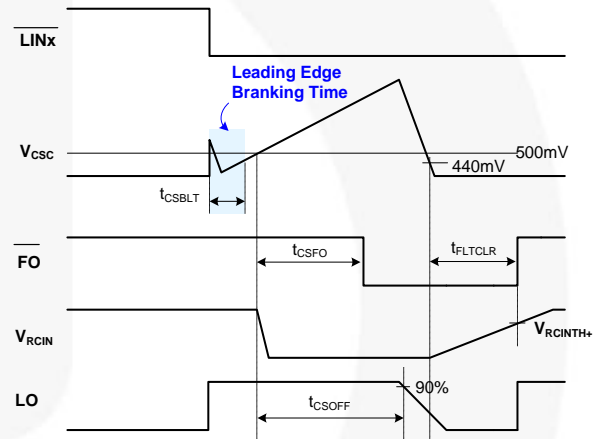

Figure 43. RCIN and Fault-Clear Waveform Definition
Figure 43 shows the waveform definitions of RCIN, \overline{FO} , and the low-side driver; which uses a soft turn-off method when an under-voltage condition of the low-side gate driver supply voltage (V_{DD}) or the current-sense pin (CS) recognizes a fault. If a fault condition occurs, the \overline{FO} Pin is internally pulled to COM and all outputs (HO1,2,3 and LO1,2,3) of the gate driver are turned off. Low-side outputs decline linearly by the internal sink current source ($I_{SOFT}=40 \text{ mA}$) for soft turn-off, as shown in Figure 43.